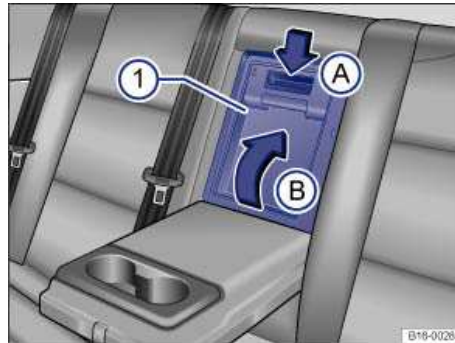

Fig. 114 In the rear seat backrest: Opening luggage compartment pass-through without lock.
- Push down the release button ⇒ fig. 114 \(A\) and fold the pass-through cover (1) down into the luggage compartment (B).